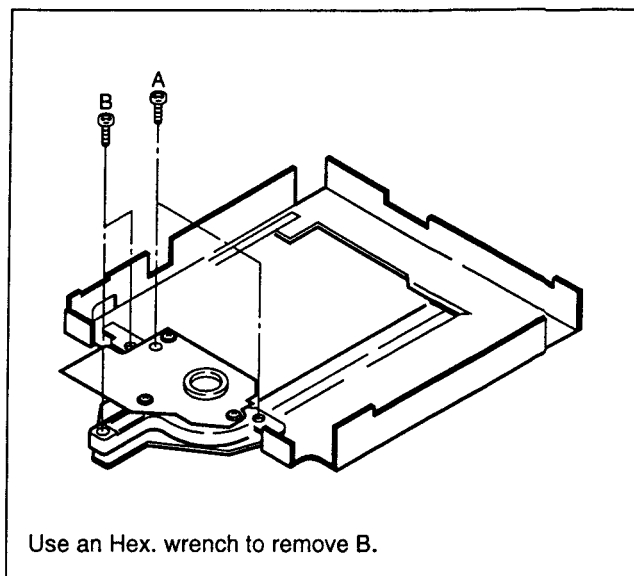

Fig. 3-3 Replacement of the Disc Motor
1. For the Disc Motor assembling, install the 2 Screw B (adjustment screw) after firmly tightening the 2 Screws A. (Refer to the figure 3-3.)